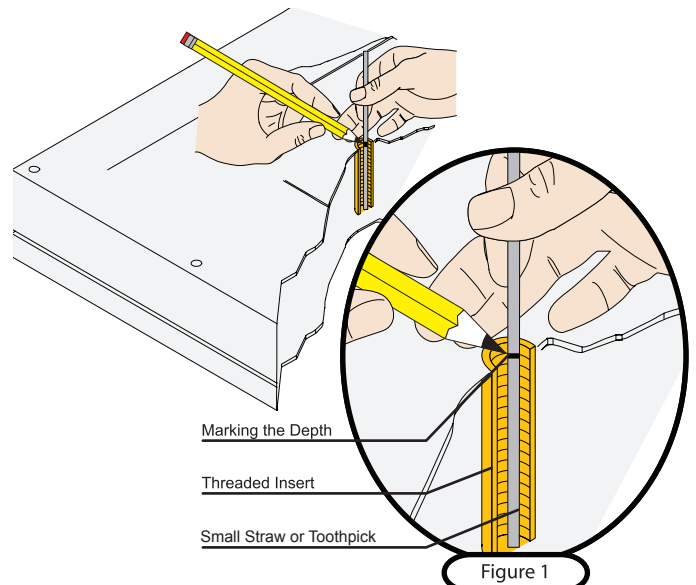

Figure 1
- 2 Use a pencil to mark the depth of the thread insert on the small straw or toothpick, as shown in Figure 1.